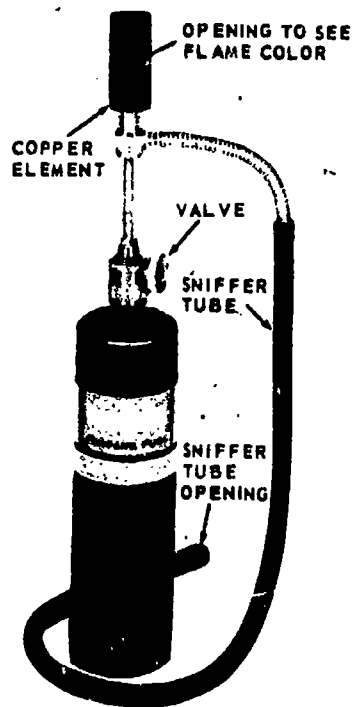

Fig 3-1. Halide Torch Leak Detector
- (1) Halide torch (fig 3-1). This is a special method used on units or systems which use the halogen refrigerants (i. e., F-12 or F-22) and methyl chloride. The halide torch may be heated with alcohol, natural gas, propane, or acetylene. A copper reactor plate is located at the discharge end of a flexible exploring tube. With the torch lit, the exploring tube is passed over and around joints or areas of suspected leaks. If the slightest bit of refrigerant is leaking, it will be drawn up the tube and the normally blue flame will turn green. If a large amount of refrigerant is encountered the flame will turn purple or it may go out. To use the halide torch, proceed as follows.
- (h) **Circuit Jacks:** There are eight jacks on the front panel marked with the functions they represent (Figure 3-1). These jacks provide the electrical connections to the test leads. The COMMON (-) jack is used (in conjunction with the black test lead) as the reference point for the measurement of all the functions with the exception of the 10A range. (Refer to the Operation Section for details.)